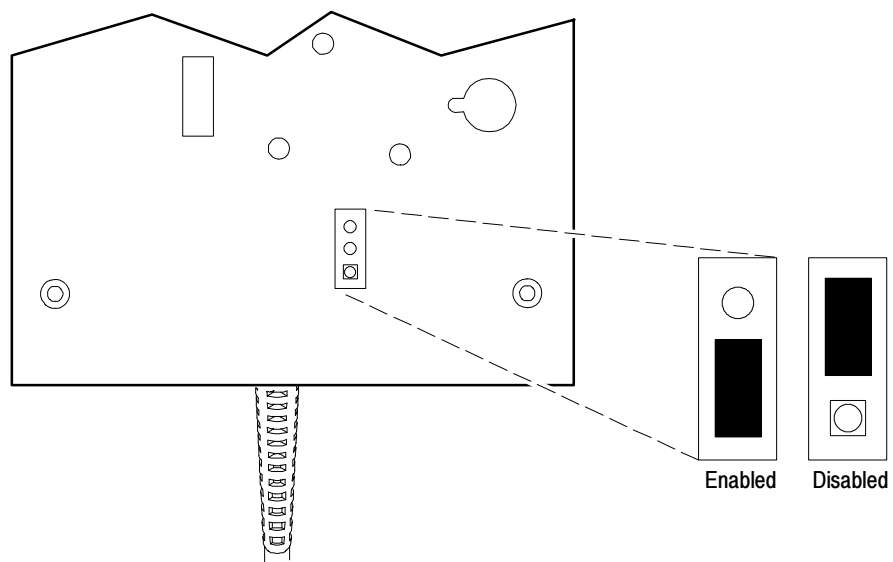

Figure 1: Configuration Jumper for Scale Factor Coding
Compatible Oscilloscopes. Most oscilloscopes with the TEKPROBE interface, except the 11000 Series models, are compatible with the scale factor coding of the ADA400A Differential Preamplifier. The factory configures the internal jumper to connect the scale factor coding. See Figure 1.
2. Identify the jumper on the data line (See Figure 1) and position the jumper to disable the scale factor coding.